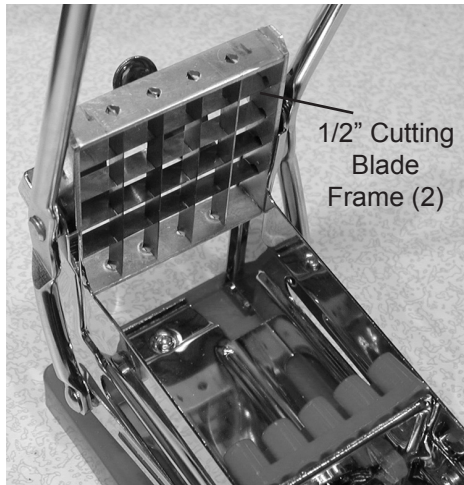

Figure 2
- Slide the Cutting Blade Frame (2) all the way down with the sharp edges facing inward. See Figure 2, below.